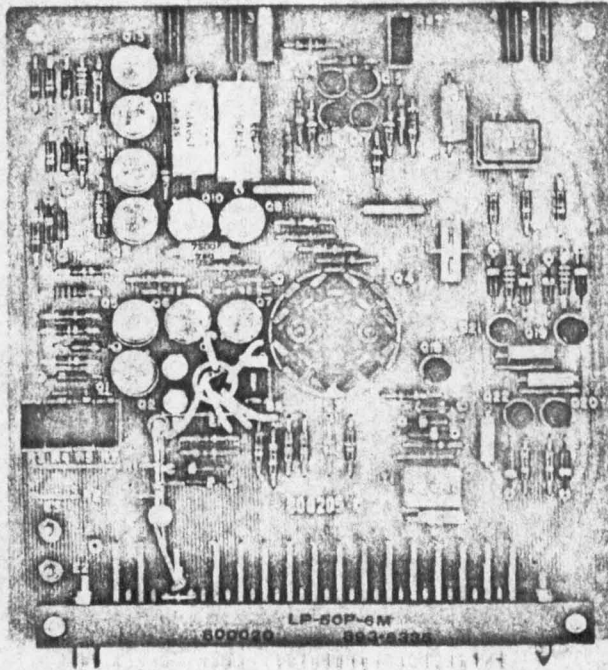

Figure 1. Model 600205 Comparator Amplifier
2. Description - The Model 600205 Comparator Amplifier Trigger (see figure 1) is a printed circuit board module consisting of a resistance adder network, an amplifier, strobed amplifier, and a flip-flop. The circuit board is a standard 50-pin module card with components mounted on one side. The board assembly measures 5 x 5.4 inches and requires one standard card space. Test points are provided on the top edge of the card for waveform observation and trouble shooting during operation.